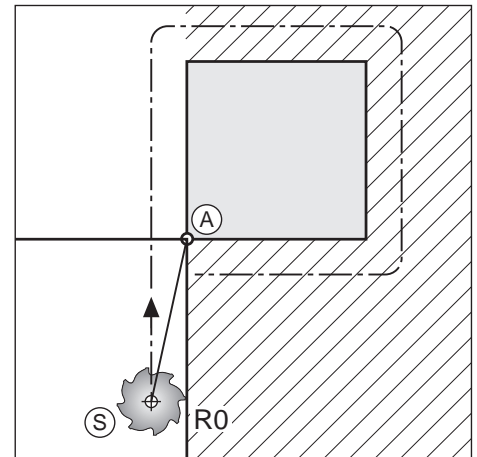

Fig. 5.6: End position (E) after machining
The best end position (E) lies on the extension of the tool path. The end position can be located anywhere outside of the hatch marked area in Fig. 5.6. It is approached without radius compensation.